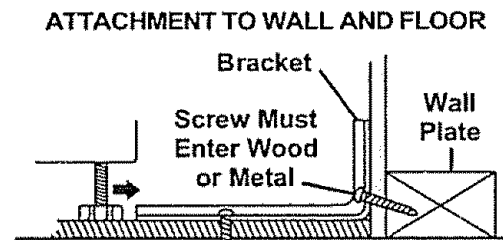

Fig. 2
2. **Wall:** Drill an angled  $\frac{1}{8}$ " pilot hole (as shown in Fig. 2) in the center of each pre-marked wall hole position (a nail or awl may be used if a drill is not available).
- B. Mount the **ANTI-TIP** bracket with the 4 screws provided as illustrated in Fig. 2.